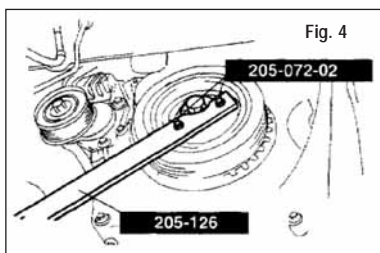

Fig. 4
4) Hold the crankshaft pulley using the service tools shown in **Figure 4** below